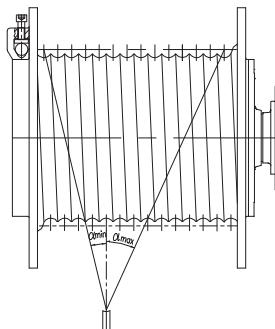

图4 Figure 4
4.3 为了保证钢丝绳正常缠绕,要求绳偏折角 α 维持在允许范围之内(图4),应注意以下几点:
4.3 To achieve acceptable rope winding, the deflection angle α must be kept in the allowable value (figure 4) Attent the following points: